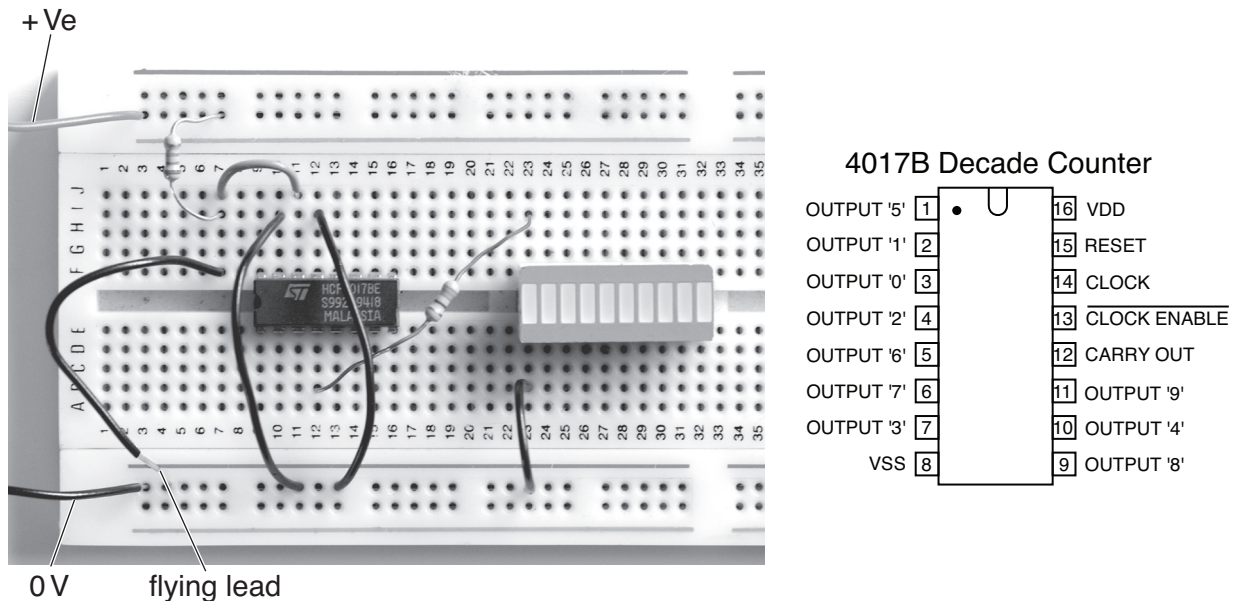

Fig. 13
- 4 (a) A kitchen timer circuit is based on a 4017B decade counter IC. The count advances on a clock pulse occurring once every minute. The IC counts from 0–9 before automatically resetting to 0. A breadboard layout shown in Fig. 13 is used to test that the IC is working. A bargraph display with ten LEDs is used on the breadboard.